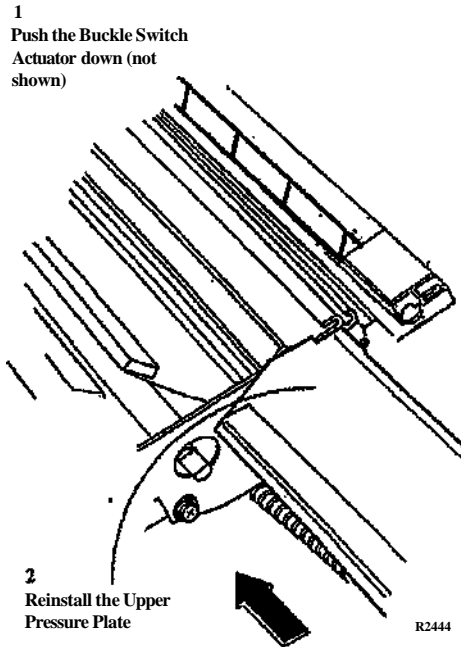

Figure 3. Reinstalling the Upper Pressure Plate
2. (Figure 3): Reinstall the Upper Pressure Plate.